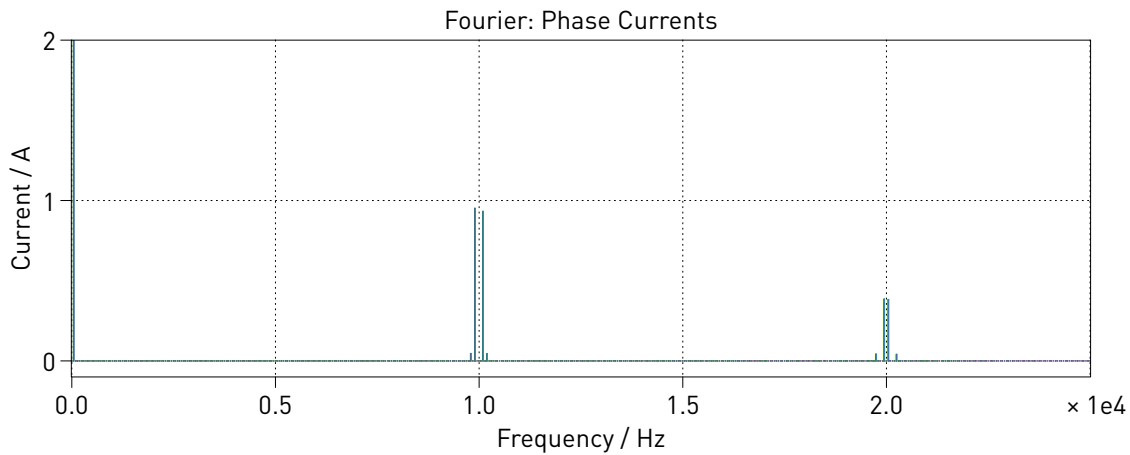

Figure 2: Zoomed in Fourier spectrum using Sinusoidal PWM controller
- To match Fig. 2, set the **Set base frequency**: to the fundamental frequency (50 Hz), and specify 500 for the Number of Fourier Coefficients, **N**. These settings are configured so the Fourier spectrum results show the harmonics up to 25 kHz, or 2.5 times the switching frequency of 10 kHz for Sine PWM and SV PWM.